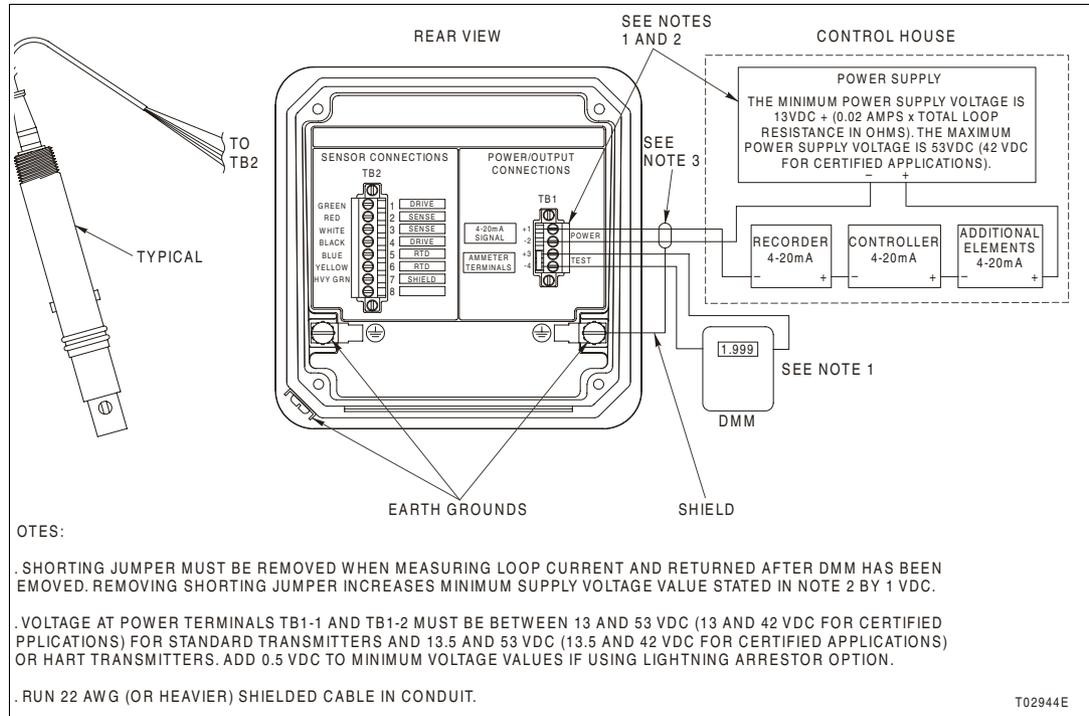

Figure PR5-2. Wiring and Grounding
- 2. Use the small flat-blade screwdriver to connect the signal and power wiring to TB1-1 (+) and TB1-2 (-) as shown in Figure PR5-2.
- 1. Use the small flat-blade screwdriver to connect the sensor wiring as shown in Figure PR5-2.